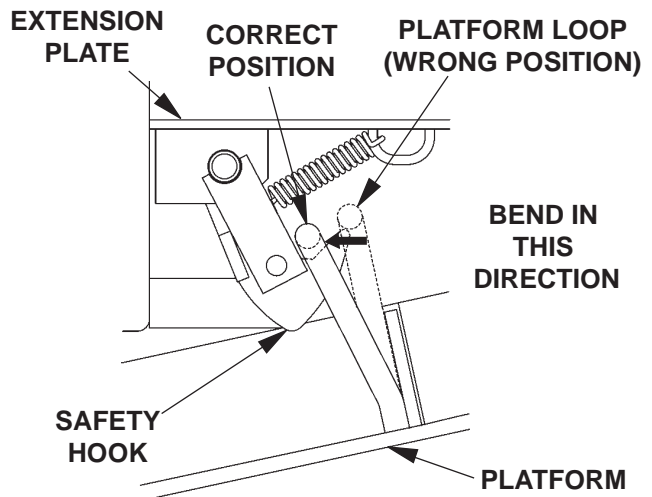

FIG. 21-1
2. When the Liftgate is stowed, see if **platform loop** is positioned above the **safety hook** as shown in **FIG. 21-1**.
2. Adjust by bending the platform loop as shown in **FIG. 21-1**.